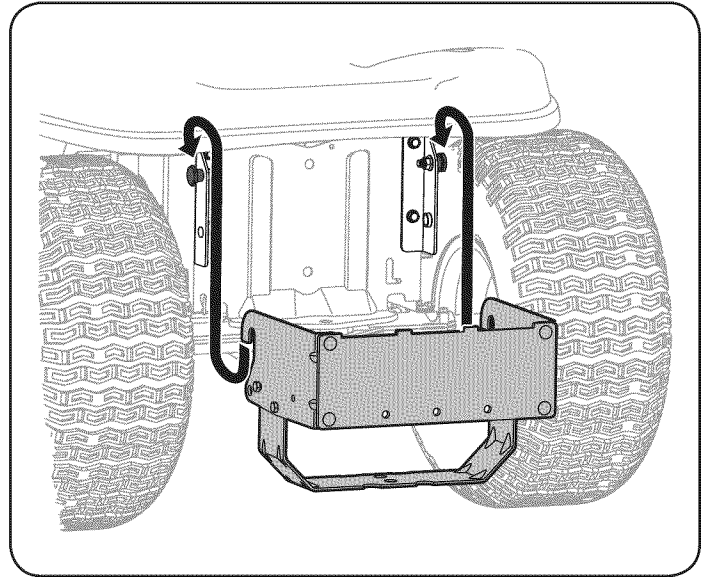

Figure 5
1. Place the hooked ends of the bagger mounting assembly over the shoulder bolts, as in Figure 5, on the tractor and line up the hitch support hole on the mounting assembly with the hole on the tractor's hitch.